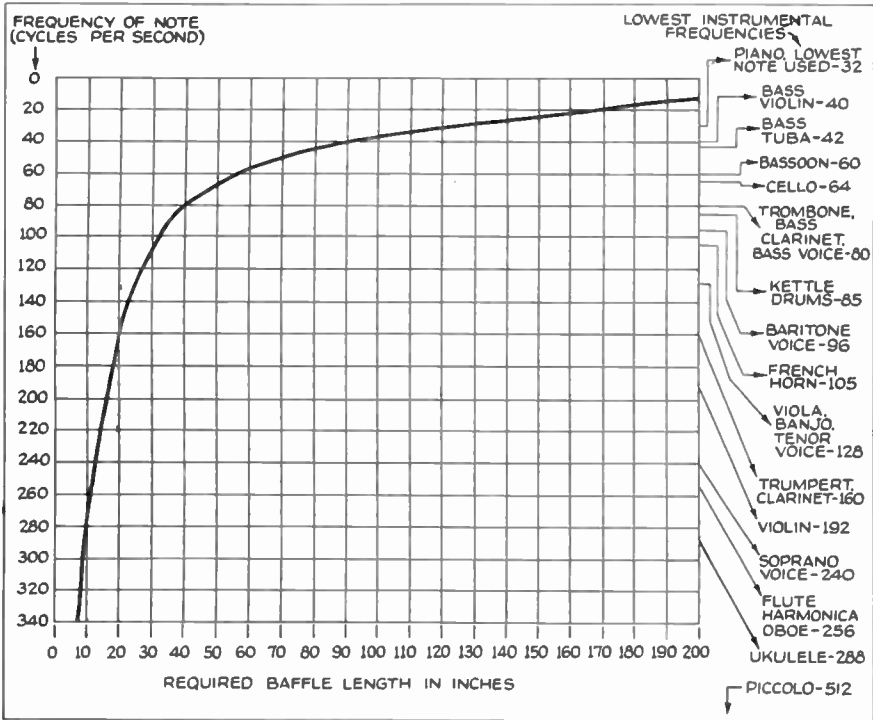

Fig. 41
(A) This information is given in the chart herewith (Fig. 41), which was developed by Mr. A. A. Ghirardi of the Pilot Radio and Tube Company.